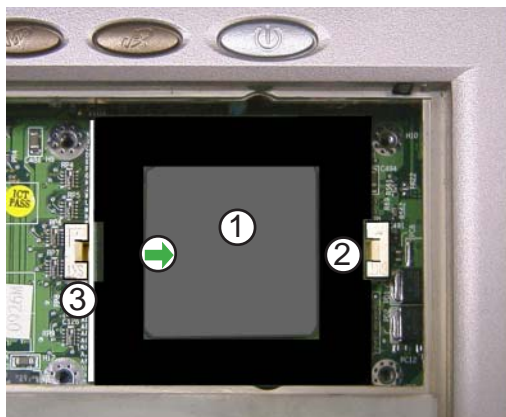

figure 2-11a
2. Place the CPU tool over the CPU (figure 2-11a).
3. Place a screwdriver in the CLOSE slot of the CPU socket (figure 2-11a) and move it to the right.